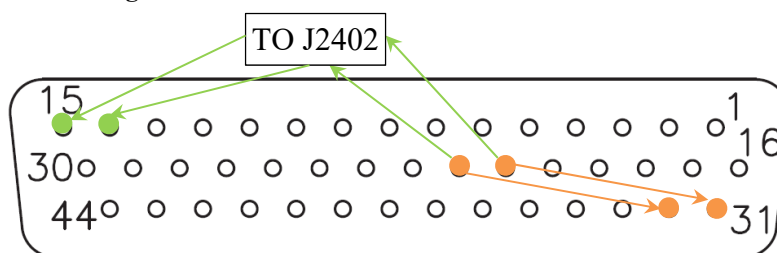

Figure 7: Rear Connectors J2401 & 2402, Viewed from Back of Unit
16. Refer to Figure 7, move pin from P2401 position 21 to 31 (orange).
17. Refer to Figure 7, move pin from P2401 position 22 to 32 (orange).